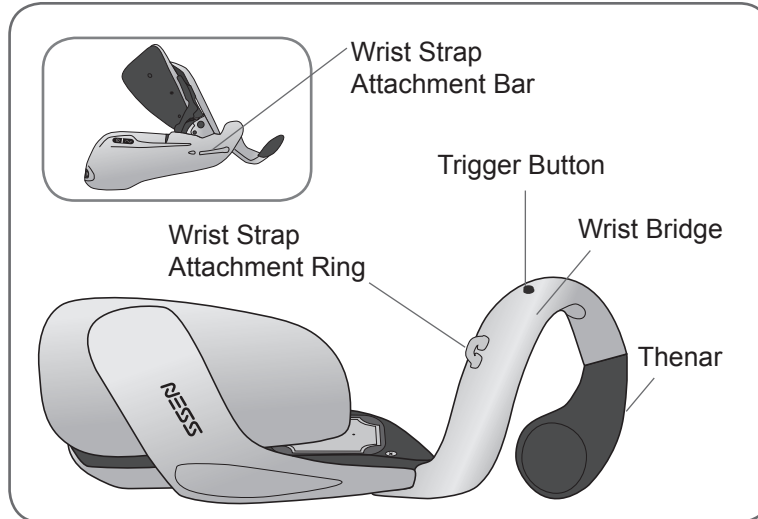

Figure 5-8: Spiral end of the Orthosis.
**The spiral end features: See Figure 5-8.**